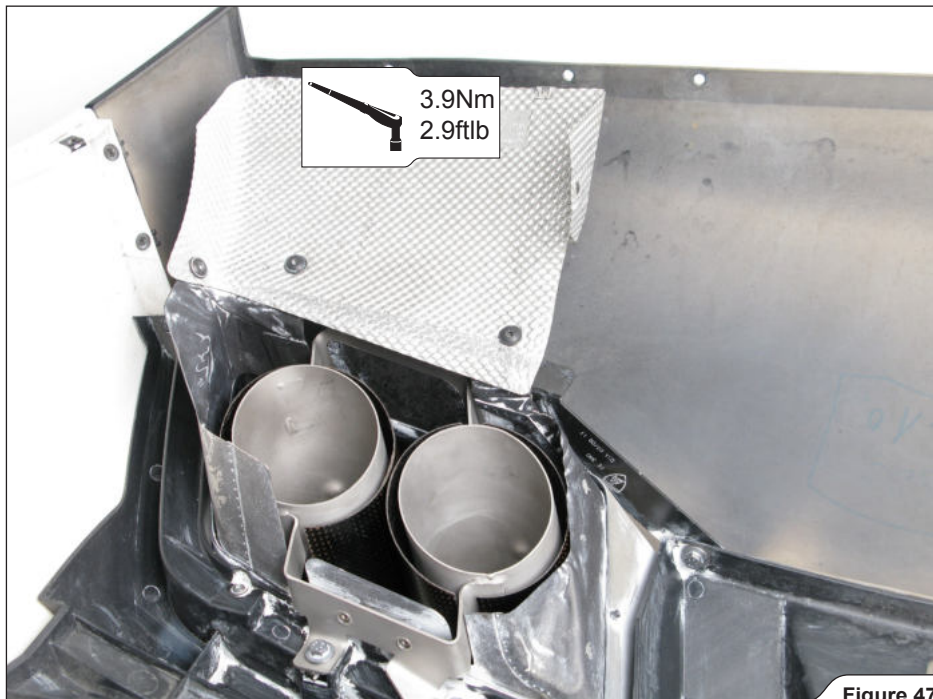

Figure 47
10. Install the stock tail pipe heat protection on both sides of the bumper trim panel, using stock-bolts (Figure 47).